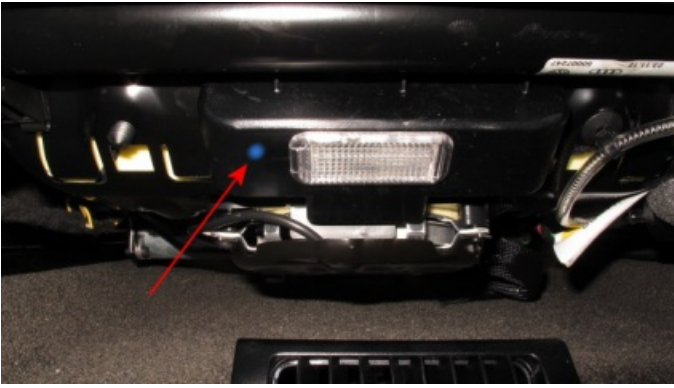

Figure 5
6. Once both seat control modules have been change to part number 4W0.959.760 then apply a blue paint spot to each seat base adjacent to the rear footwell lamp (see Figure 5)